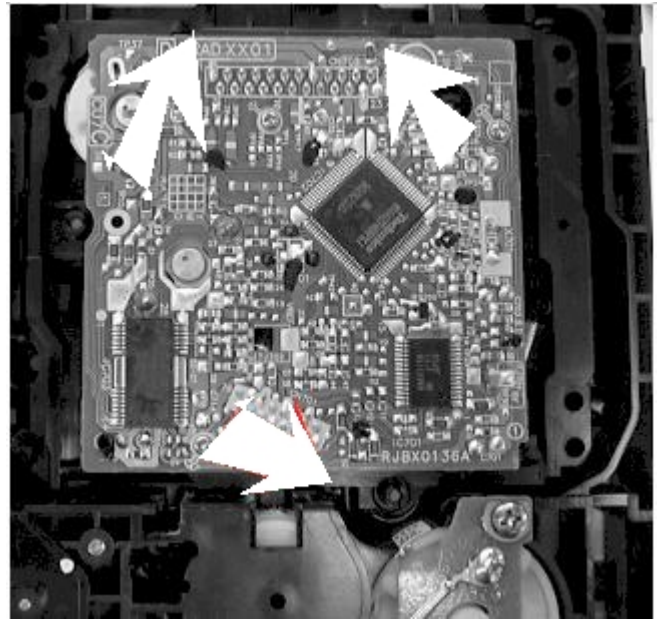

Figure 7
- 8) There is one mounting pin on the traverse chassis (361) close to the tray motor and another on the opposite side of the traverse assembly (Figure 7). Pry the mounting pin closest to the tray motor inward to release the pin. Once this pin is released, the mechanism will drop free.